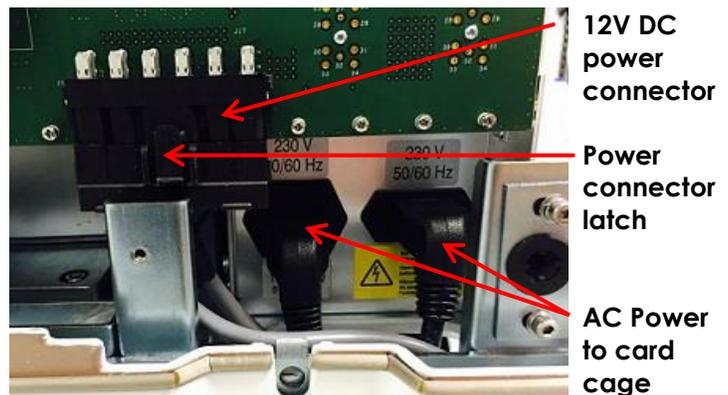

Figure 106: Front Insert Panel
- Push down on the *power connector latch* (refer to Figure 106)